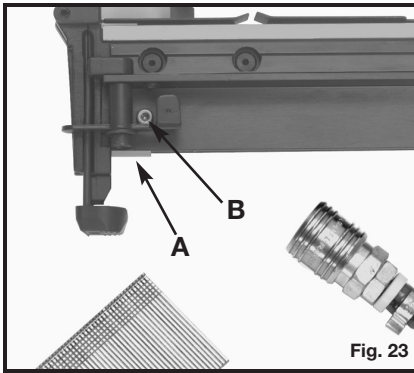
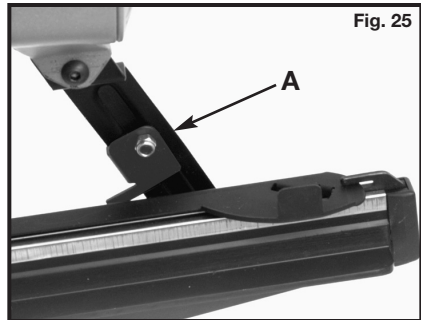

Fig. 23
Fig. 25
A Fastener Guide (A) Fig. 23 and 24, is factory installed on Model FN250A. The Guide is held in place with a bolt and nut (B) Fig. 23 and 24. The Fastener Guide **must** be used whenever driving fasteners that are less than 1½" long. The Fastener Guide **must** be removed when driving fasteners that are 1½" or more in length. When not in use, the fastener guide may be stored by attaching it to the rear bracket as shown in Fig. 25.